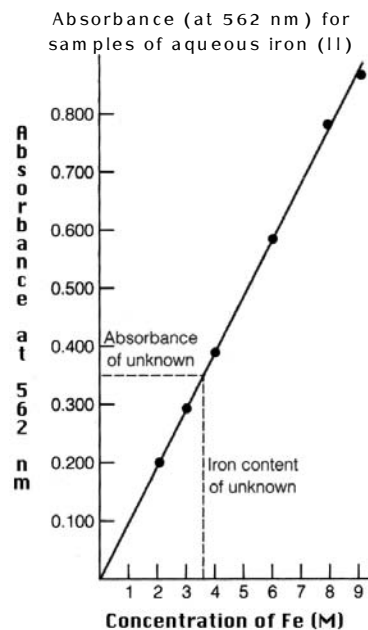
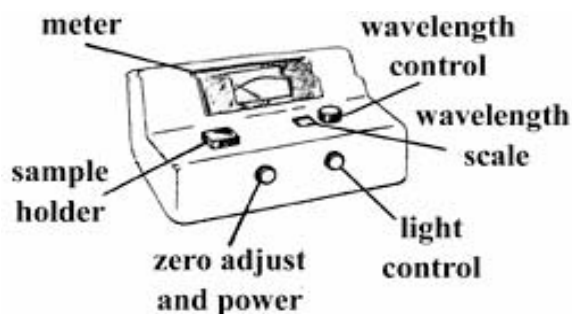

Figure 2. A sample calibration curve used to determine the concentration of an unknown sample of iron (II)
Figure 3. A typical spectrophotometer
A calibration curve allows scientists to determine the unknown concentration of a known species. According to Beer's law, as long as we account for a blank solution in our studies, a plot of absorbance versus concentration gives a straight line with slope = " ϵb " and a y-intercept = 0. For example, the calibration curve in Figure 3 is used to determine the concentration of an unknown solution of iron. The graph is constructed from six points that are made from a stock solution of iron having a known concentration. The experimentally measured absorbance of each of the six solutions is then plotted as a function of concentration and a line of best fit is drawn through the points. As expected, the absorbance of the sample increases linearly as the concentration increases. The absorbance value of 0.357 was then measured for the unknown iron solution of interest. To relate the absorbance to the unknown concentration we can either use the equation of the line of best fit or we can extrapolate from the graph (as shown in Figure 2). This absorbance value was found to correspond to a concentration of 3.59 M of iron in the unknown sample.
The calibration curve in Figure 2 is an example of a successfully constructed graph. The title is labeled above the graph with both the axes clearly labeled using the independent (x-axis) and the dependent (y-axis) variables in the experiment. After plotting each of the data points on the graph, a line of best fit is drawn. Although, the points do not have to fall directly on the line, a good agreement is expected and needed for accurate determination of the concentration of your unknown.
2. Turn on the spectrometer (Figure 3) by rotating the power control clockwise. Allow the spectrophotometer to warm-up for five minutes before using.